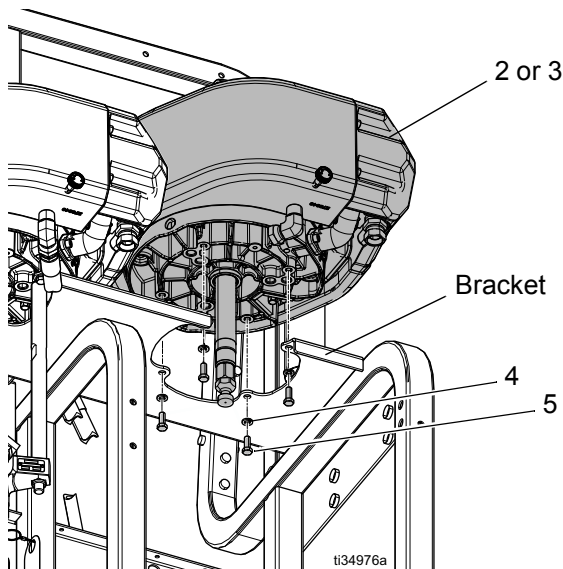

FIG. 7
- b. Remove mounting screws (5) and washers (4) holding air motor (2 or 3) to mounting bracket. See FIG. 7 on page 29.